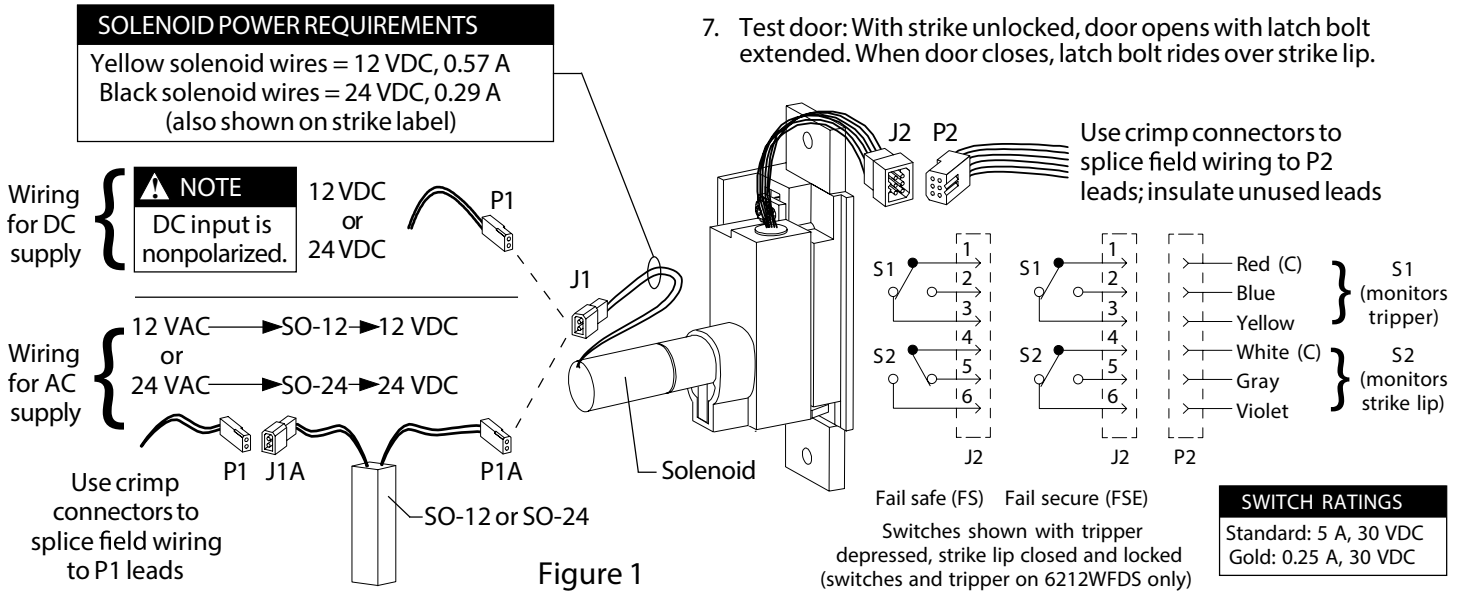

Figure 1
3. Wire strike (Figure 1). (Switches on 6212WFDS only.)
4. Test strike: Apply solenoid power. Fail secure (FSE) lip unlocks. Fail safe (FS) lip locks. Figure 1 shows status of switches.